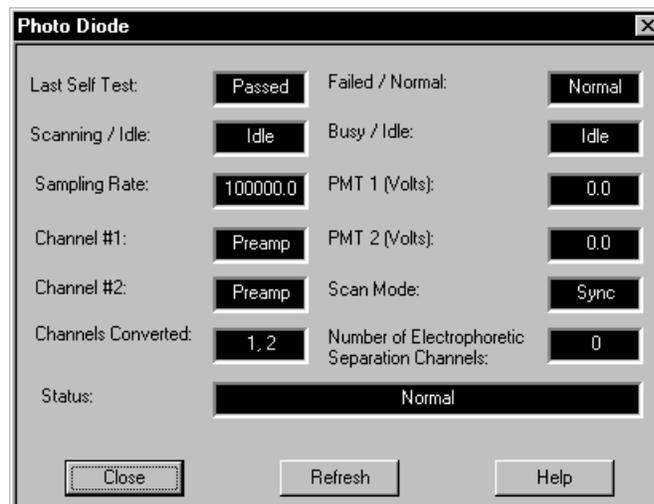

Figure 7-16. Photo Diode Control Node.
**Photo Diode Control Node**—This icon brings up the Photo Diode Control Node window (figure 7-16), which displays the status of the PDIO board.